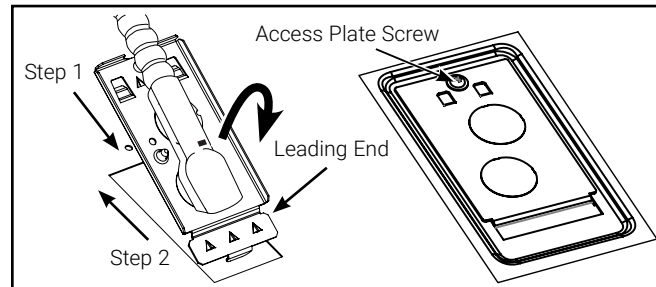

Figure 3.
4. Remove electrical access plate and any necessary knockouts from access plate for attachment of electrical supply cable (Figure 3).
- Step 1: To insert access plate, rotate until leading end is inside the wireway (Figure 3).